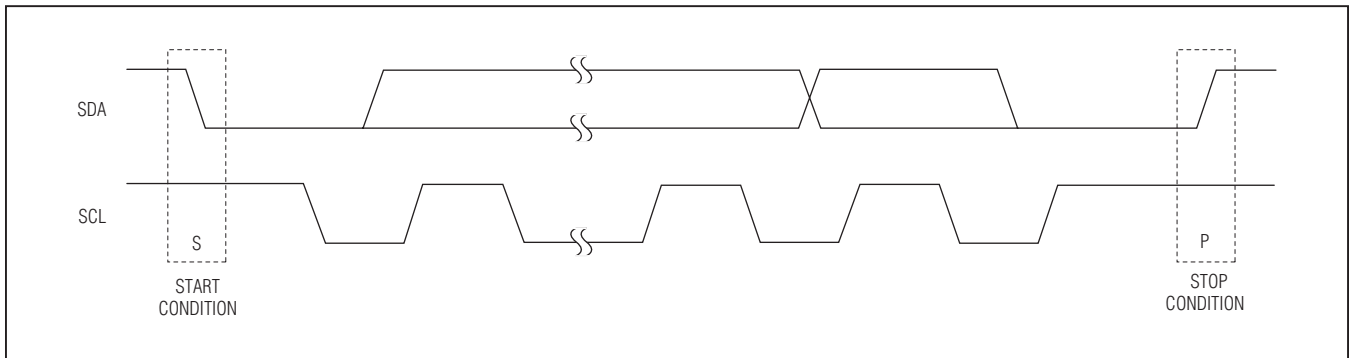

Figure 24. START and STOP Conditions
Both SCL and SDA remain high when the interface is not busy. A master signals the beginning of a transmission with a START (S) condition by transitioning SDA from high to low while SCL is high (see Figure 24). When the Maxim Integrated